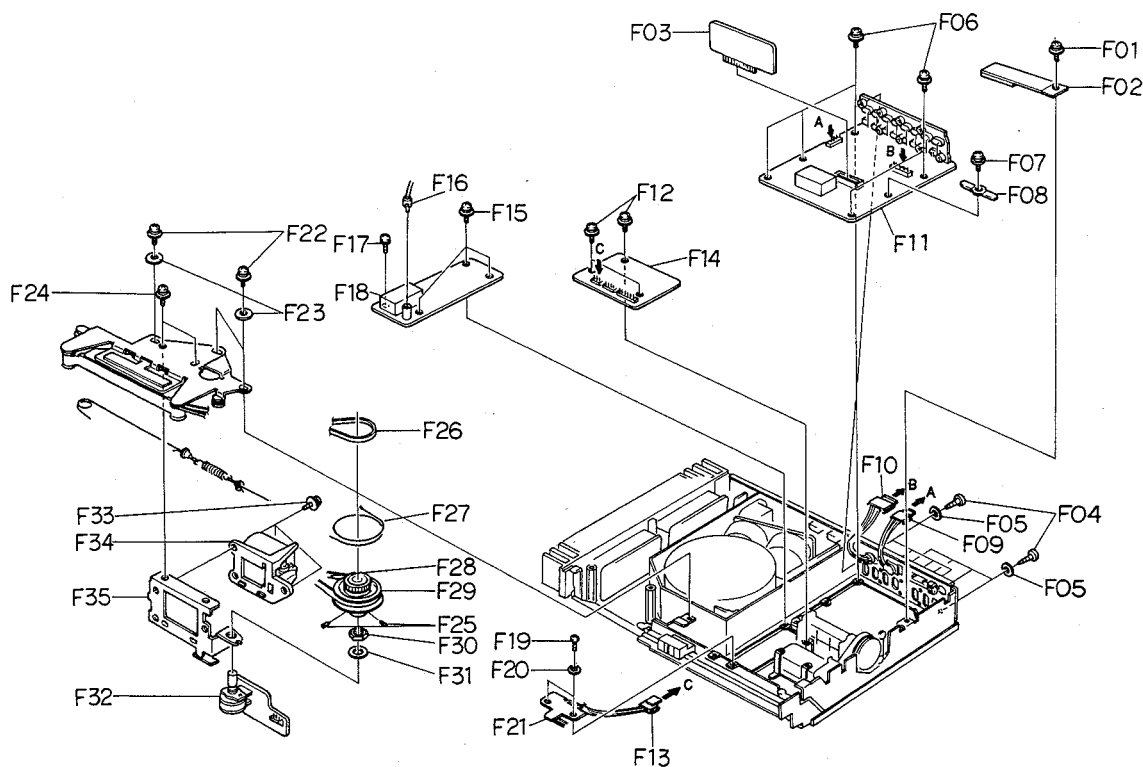

Fig. 3.10
Refer to Fig. 3.10. Remove Side Panel R and Covers referring to items 3.1 and 3.2.